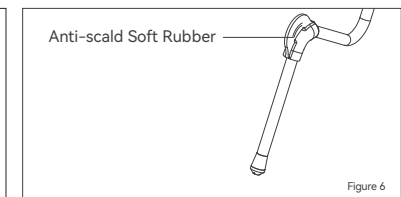

Figure 6
2) The surface of the steam wand can be quite hot, please do not touch it directly in risk of getting burned. To move the steam wand, please use the anti-scald soft rubber (Figure 6).